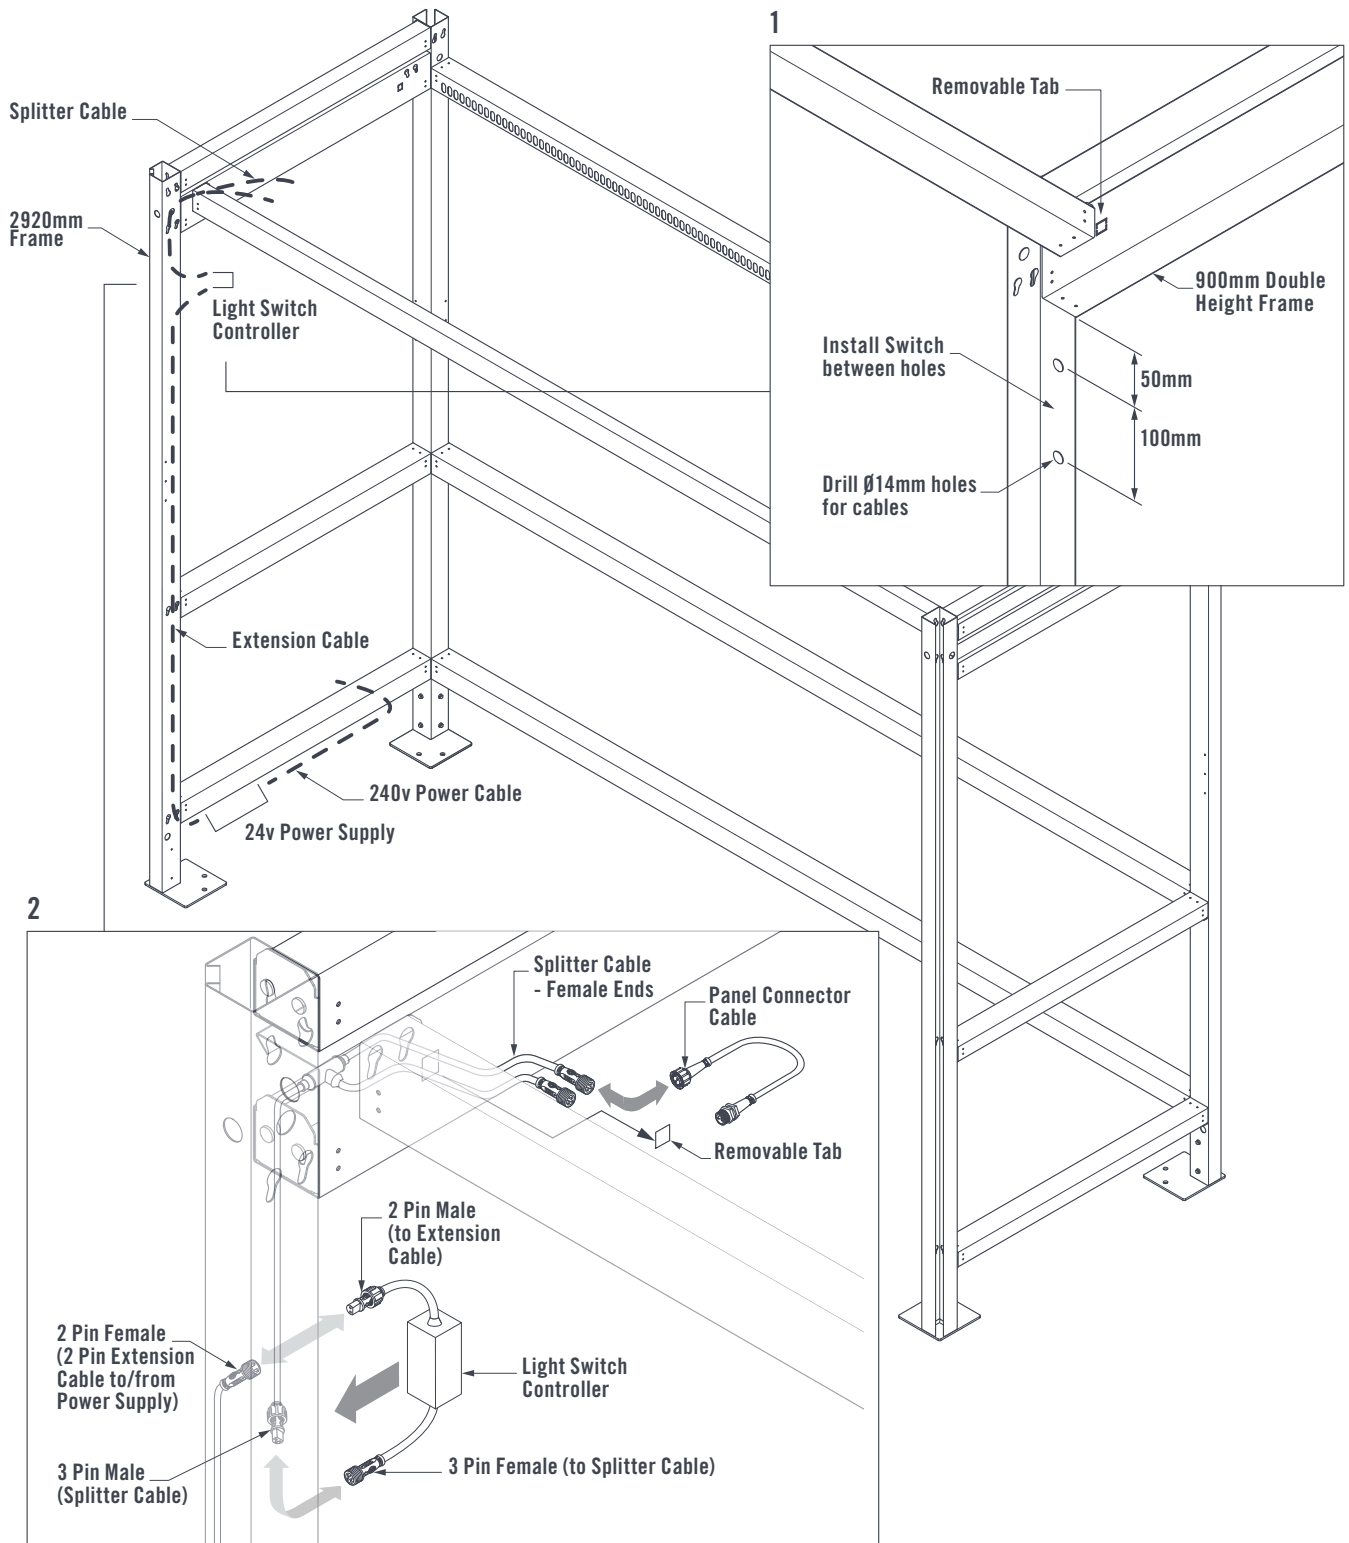

FIGURE 4.5
2) Connect the 2 Pin Extension Cable to the Light Switch Controller. Feed the Male end of the 3 Pin Splitter Cable through the hole in the 2920mm Frame and connect to the Light Switch Controller. Feed the Female Ends of the Splitter Cable through the 900mm Double Height Frame and connect one of the ends to the Panel Connector Cable (Figure 4.5).